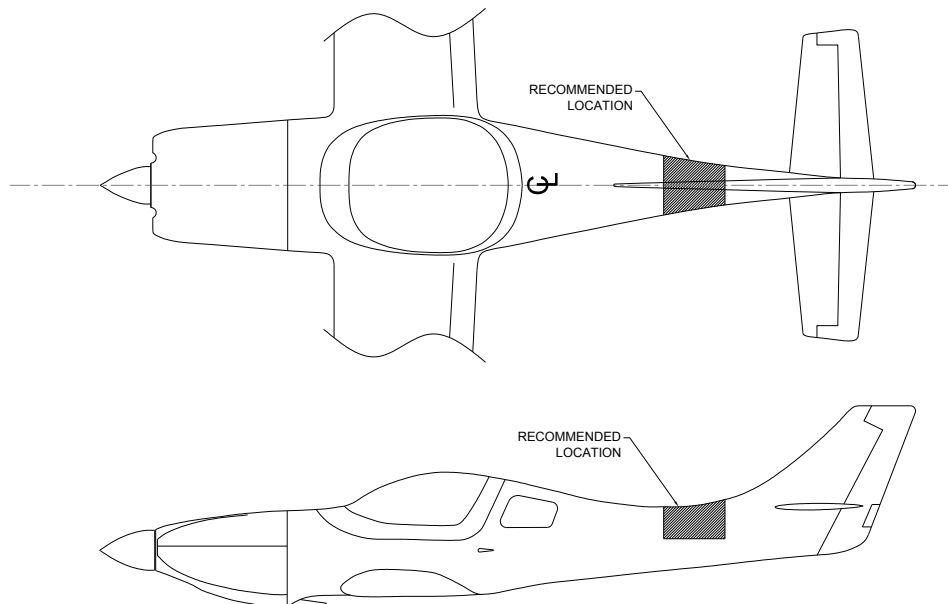

Figure A-19 Lancair Legacy Magnetometer Location
1. A possible mounting location is in the upper section of the fuselage cavity, just forward of the vertical tail section. The recommended location is shown in Figure A-19.